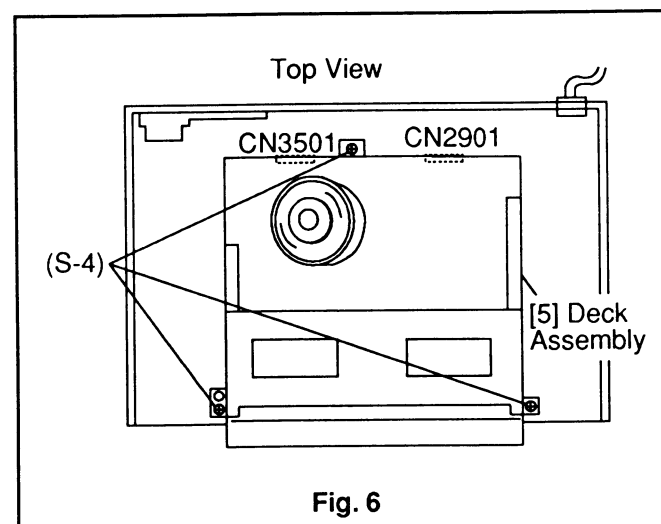

Fig. 6
4. Remove 3 Screws (S-4). Then slowly lift the Deck Assembly up. Lifting this Deck Assembly will disconnect 2 Connectors (CN2901, CN3501). (Fig. 6)